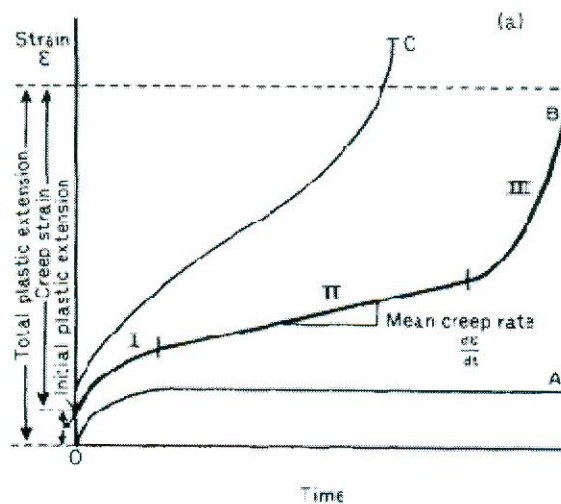

Figure 2 : The variation of metal deformation with time under different stresses
- [c] Figure 2 gives a graph of deformation variation with time under different stresses (A, B & C) for a metal. I, II and III refers to the three stages in creep deformation ; primary, secondary or steady states, and tertiary creep accordingly. Discuss why the creep behavior changes with stress. Also what are the other factors that influence creep behavior of a metal.